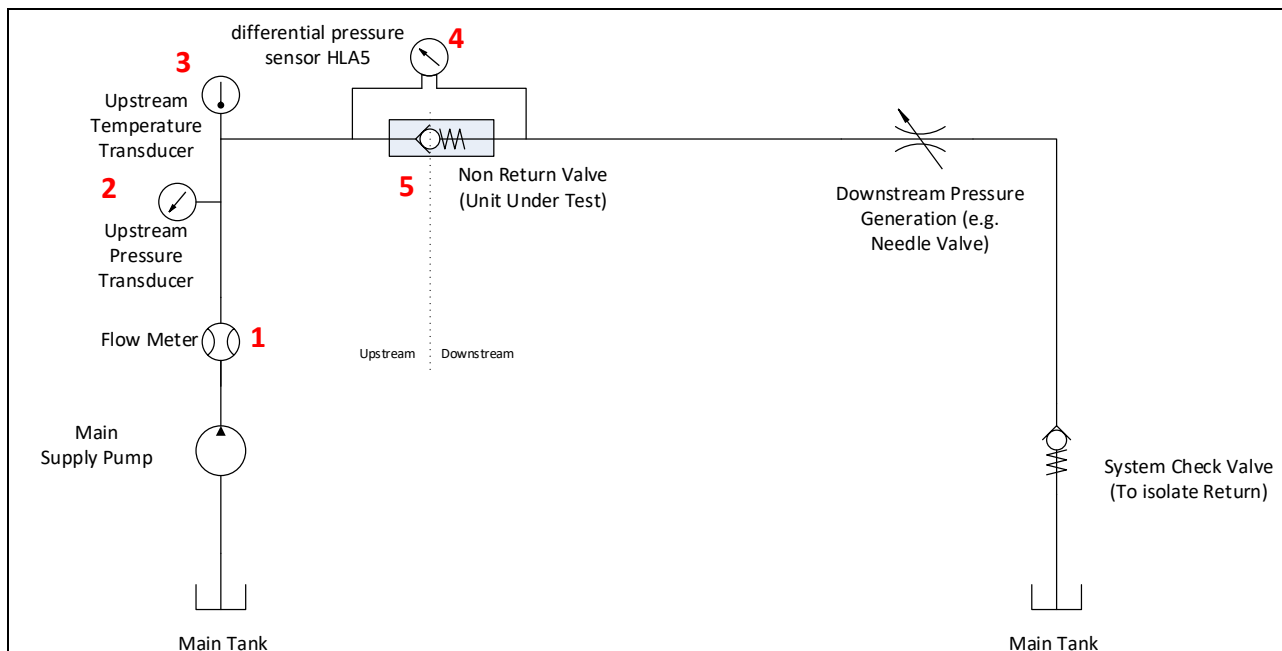

Figure 16: test setup Test Title 4 - 3(5)
(4) Reseat Pressure
(5) Pressure Drop at Rated Flow
- Test set-up in accordance to Figure 16.